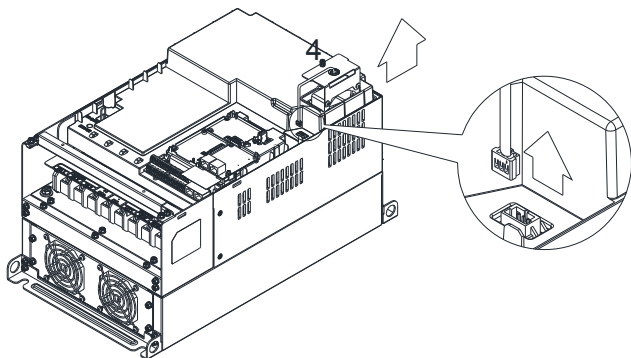

Figure 3
3. Loosen screw 4 (figure 3) and disconnect fan power and pull out the fan. (As shown in the enlarged picture 3) Screw 4 『Torque: 10~12 kg-cm / [8.7~10.4 lb-in.] / [1.0~1.2 Nm]』